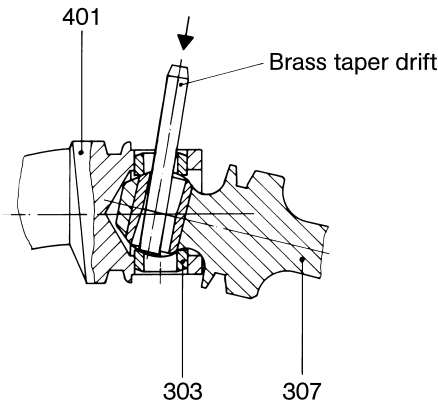

Figure 4: Removing the guide bushes
- Push out the coupling rod pins (301).
- Drive both guide bushes (303) halfway out using a tapered brass drift. To do this, tilt the coupling rod (307) (see Figure 4).